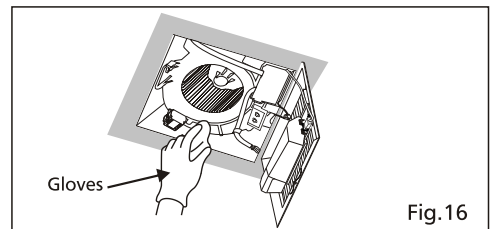

Fig.16
5. Using a cloth dampened with kitchen detergent, remove any dirt from fan body. Wipe dry with clean cloth. (Fig.16)